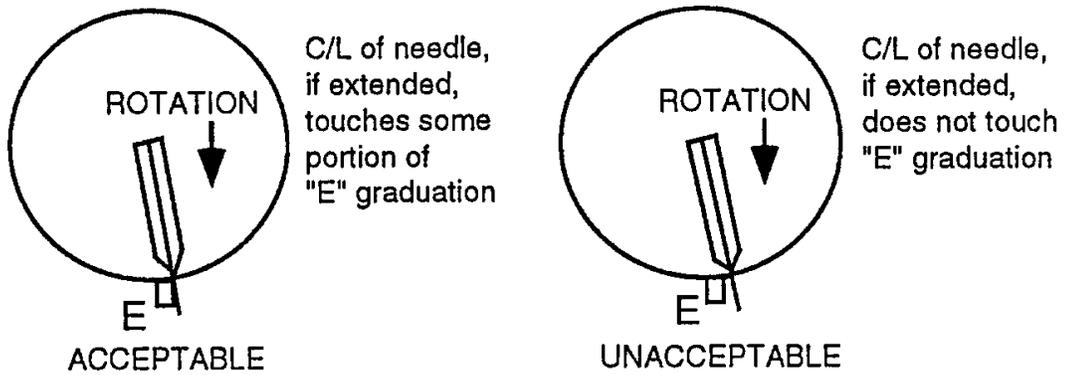
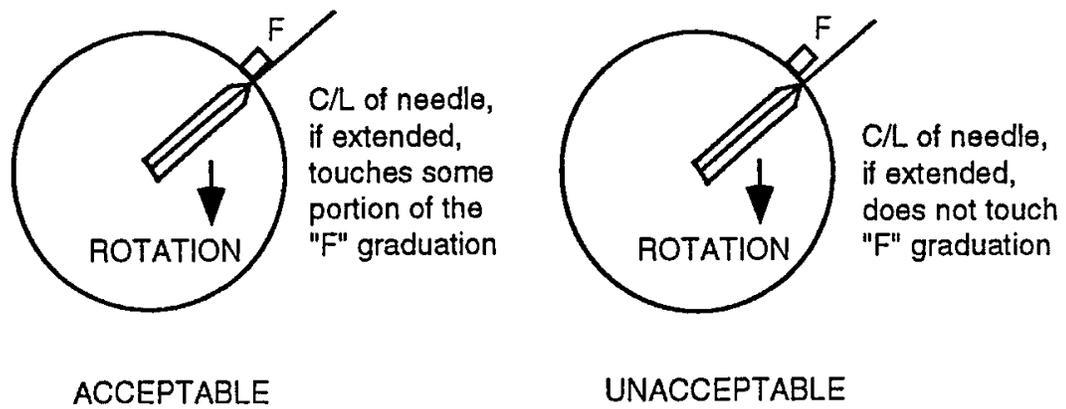

Figure 28-10. Analog Needle Display Limits at "E"
Figure 28-11. Analog Needle Display Limits at "F"
- (1) Defuel both fuel tanks.
- (2) Add 2.5 gallons of fuel to each tank (unusable).
- (3) Verify that fuel gauges indicate "O" or "E". (See Figure 28-10)
- (4) Add 10 gallons of fuel to each tank and again observe analog and digital gauge readings. When adding fuel, wait one (1) minute after each filling before recording digital and analog gauge readings.
- (5) Repeat step (4) for 20, 30, and 40 gallon, and "F" increments for both left and right tanks. See Figure 28-11 for analog needle display limits at "F".
- (6) Gauge reading tolerances are given in Chart 2805, which can also be used to record the data.